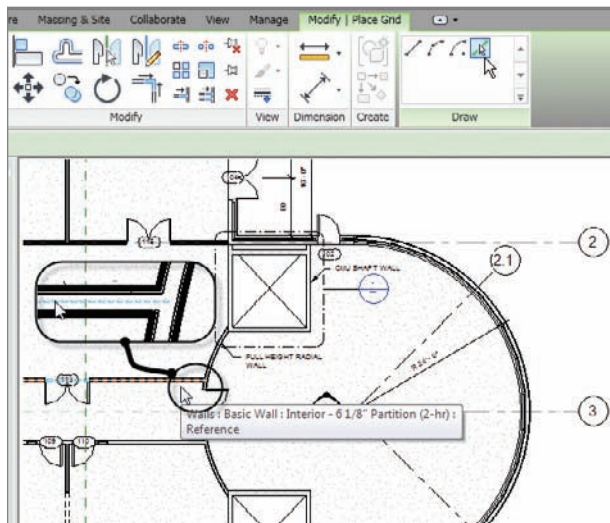

FIGURE 8.9 Adding a column line to the north corridor wall
3. Pick the core centerline of the north corridor wall, as shown in Figure 8.9.